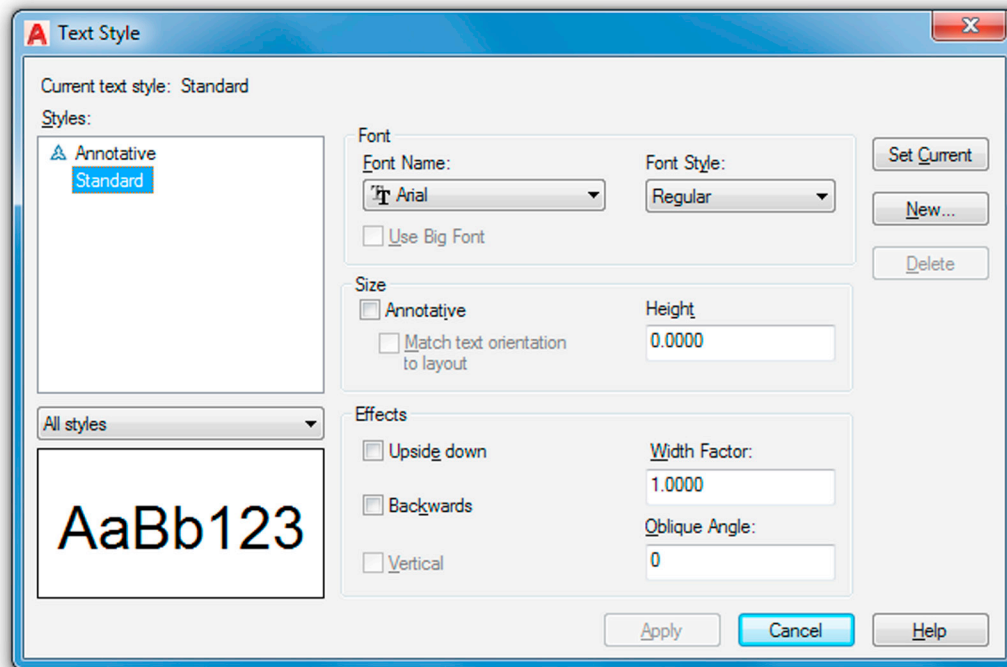

FIGURE 4.12 Text Style dialog box.
Step 1. Begin the style command via any of the preceding methods. Whichever method you use, the Text Style dialog box of Fig. 4.12 appears. Taking a look at this dialog box, let us say Arial is not what we want here; we would like to set a RomanS font that is 6" high instead.